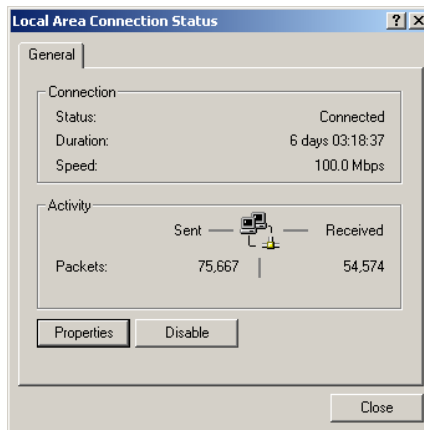

Figure D-18 Local Area Connection Status Dialog Box
3. Double-click the *Local Area Connection* icon. The *Local Area Connection Status* dialog box displays (Figure D-18).